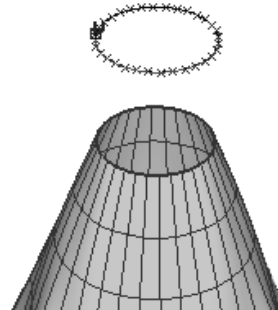

Figure 11-102 Circle created for the mouth
1. Choose the **Circle** button from the **Curves** tab in the **Palette** and then create the circle, as shown in Figure 11-102.